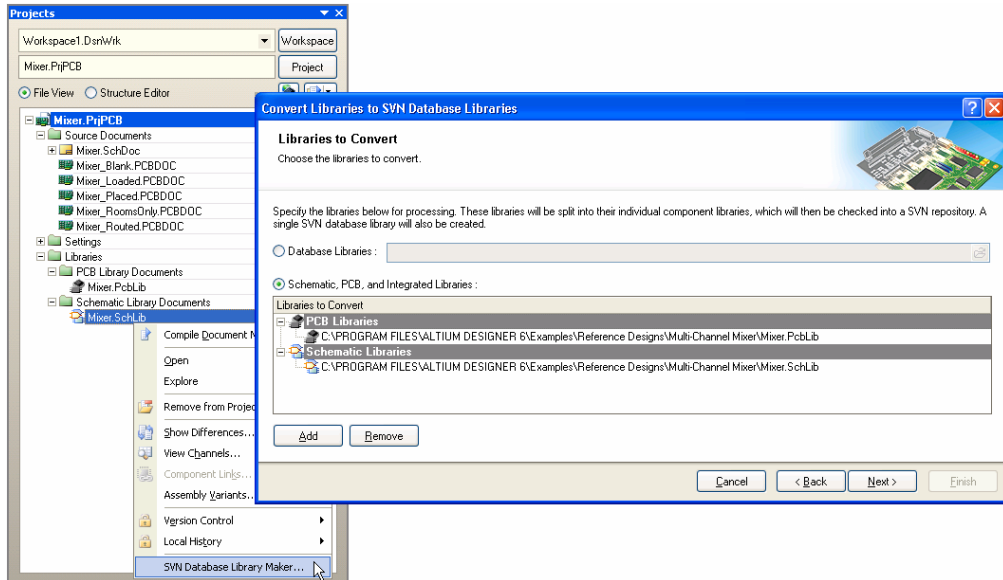

Figure 15. Populating the list of libraries to be converted, automatically, with all source libraries in a project.
- **From the Projects panel** – this is by far the easiest method and requires that the source schematic and PCB libraries are added to a project. Quite often, this will be the case, when integrated libraries have not been used. Simply right-click on the entry for a library file and choose the SVN Database Library Maker command. The Wizard will automatically load all project libraries (Figure 15).